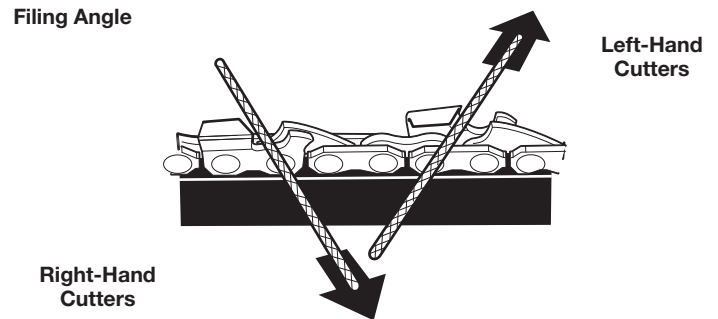

Fig. 40
- File toward the front corner of the cutter (Fig. 40). Lift the file away from the cutter at the end of the forward stroke. Only file on the forward stroke.
- File all the left-hand cutters in one direction (Fig. 40). Then move to the other side of the saw chain and file all of the right-hand cutters in the opposite direction (Fig. 40).